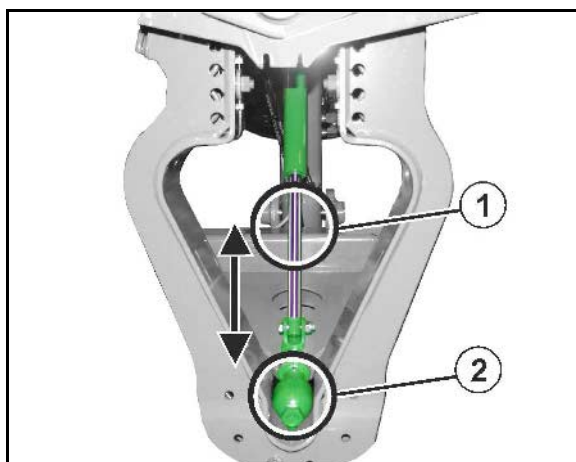

Fig. 96
| | (9) Boom equipment, see Fig. 96 |